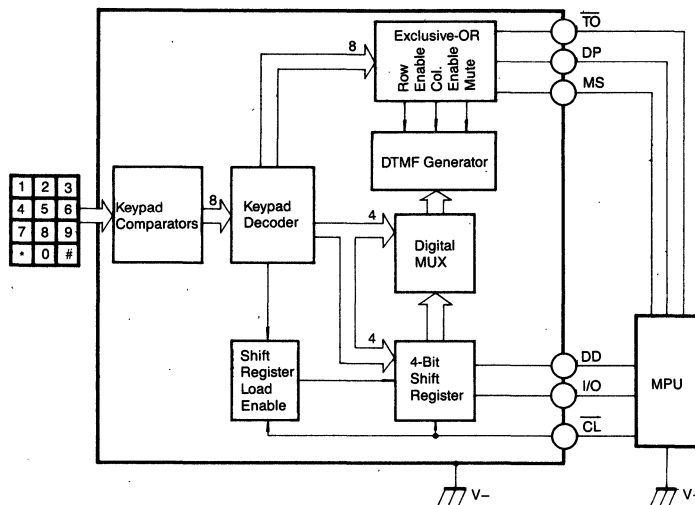
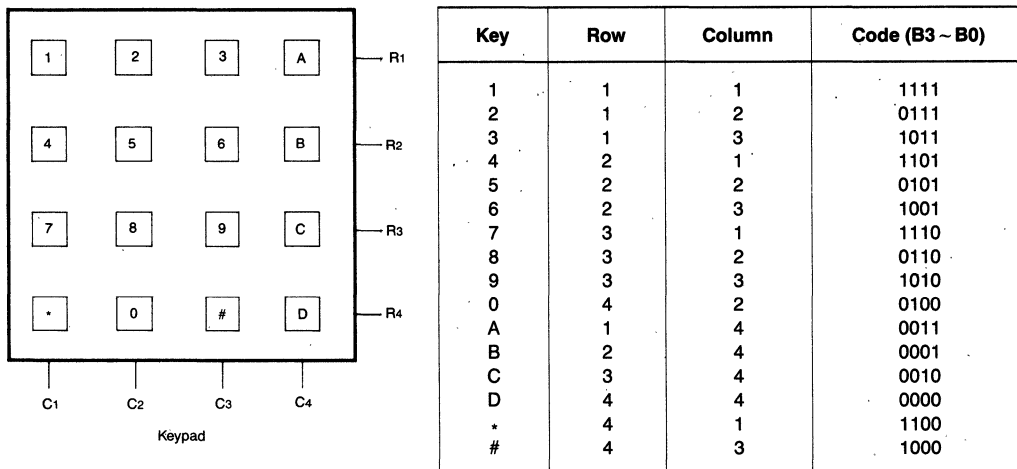

Fig. 8
Fig. 9
The MPU interface connects the keypad and DTMF sections of the ETC to a microprocessor for storing and retrieving numbers to be dialed. Figure 8 shows the major blocks of the MPU interface section and the interconnections between the keypad interface, DTMF generator and microprocessor. Each button of a 12 or 16 number keypad is represented by a four-bit code (Figure 9). This four-bit code is used to load the programmable counters to generate the appropriate row and column tones. The code is transferred serially to or from the microprocessor when the shift register is clocked by the microprocessor. Data is transferred through the I/O terminal, and the direction of data flow is determined by the Data Direction (DD) input terminal. In the manual dialing mode, DD is a logic "0" and the four-bit code from the keypad is fed to the DTMF generator by the digital multiplexer and also output on the I/O terminal through the four-bit shift register. The data sequence on the I/O terminal is B3, B2, B1, B0 and is transferred on the negative edge of the clock input ( $\overline{CL}$ ). In this mode the shift register load enable circuit cycles the register between the load and read modes such that multiple read cycles may be run for a single-key closure. Six complete clock cycles are required to output data from the ETC and reload the register for a second look.